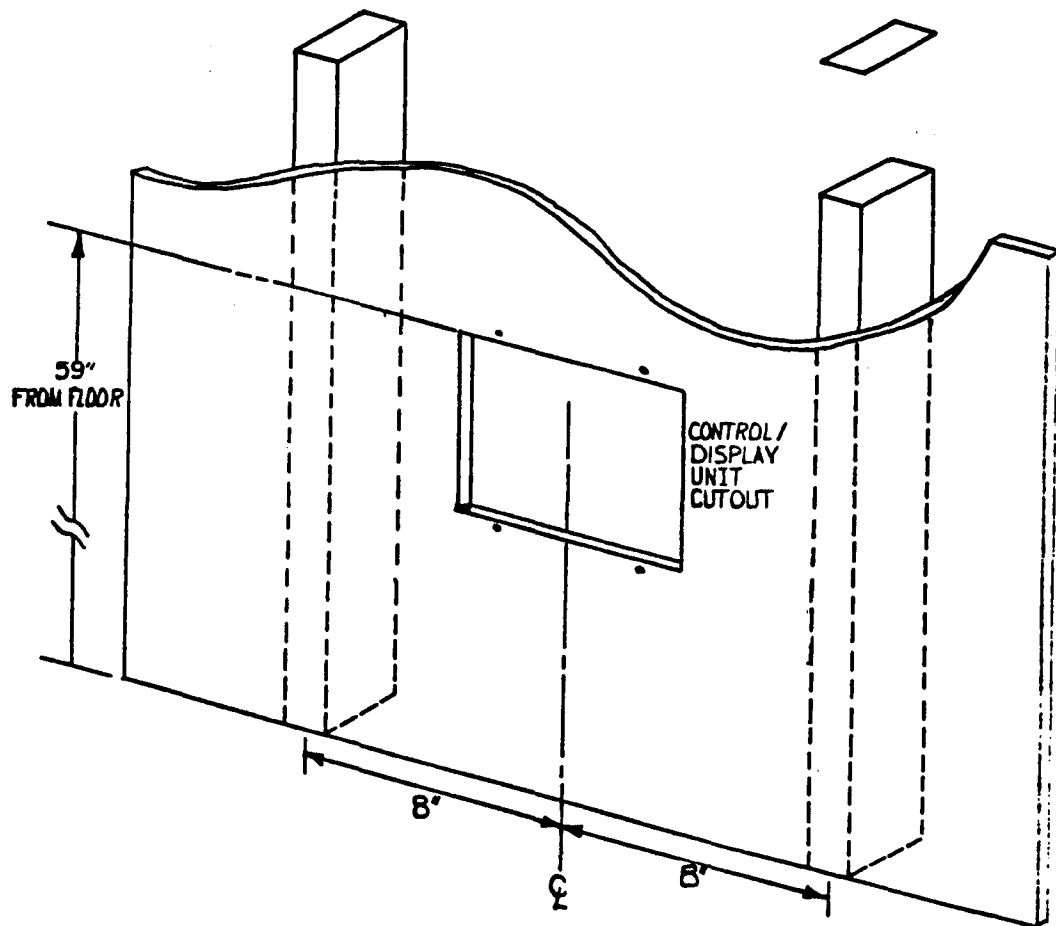

Figure 2 - Locating and Mounting the Control Unit
3. Follow the instructions on the control/display unit mounting template enclosed (P/N 671-003) to locate and mark the hole cutout and screw locations for the C/D unit as shown in Fig. 2, (page 4). Be careful to locate the hole between studs--C/D unit will only recess in wall correctly between studs because of the unit's depth.